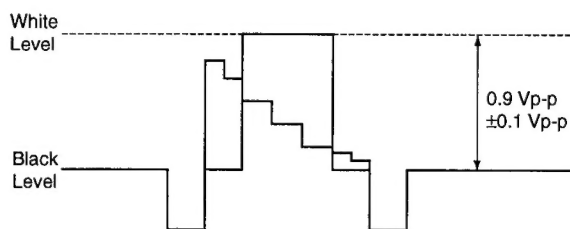

Figure 4
5. Adjust SUB-CONTRAST control (R327) to obtain 0.9 Vp-p from white level to black level.(See figure 4)